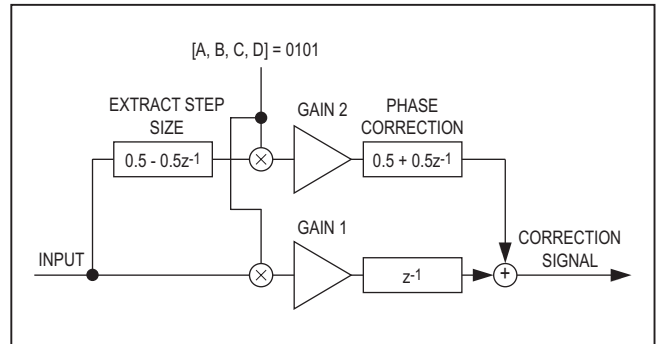

Figure 13. DAC Interleaving Error Compensation Block Diagram
- **DAC Interleaving-Error Compensation:** Since the DAC is updating on both clock edges, every other sample has an error resulting from the clock duty cycle being different by 50%. The DAC can also have a gain error in every other sample. The DAC interleaving compensation can correct for these two errors. By optimizing for these errors, the  $f_{DAC}/2 - f_{OUT}$  image is minimized. The block diagram of the DAC interleaving-error compensation block is shown in Figure 13.
The DAC interleaving compensation shown in Figure 13 contains two paths. Interleaving compensation adjusts for gain errors of every other sample, caused by either actual DC gain error or by clock duty-cycle error. The uppermost data path in this figure corrects for clock duty-cycle error. A duty-cycle error causes an error in the boundary between two samples that is proportional to the step size. In the uppermost data path, the step size is extracted and then every other step is extracted and scaled. The phase-correction filter aligns the phase of the correction signal with the transition between two adjacent samples. The lowermost data path in Figure 13 extracts every other sample of the input signal and scales the input signal using the Gain 1 parameter. When added into the signal path, a gain adjustment for every other sample results.